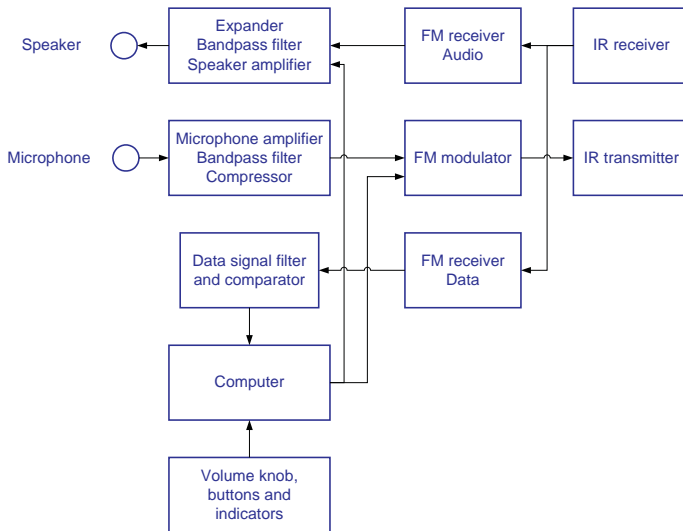

Figure 1.3 - Delegate Unit block diagram
Figure 1.3 shows a block diagram of the Delegate Unit (DU). The infra-red HF signal is received and band-pass filtered by the built-in IR receiver. The resulting signal is sent to the two FM receivers, global audio and data, where it is demodulated.